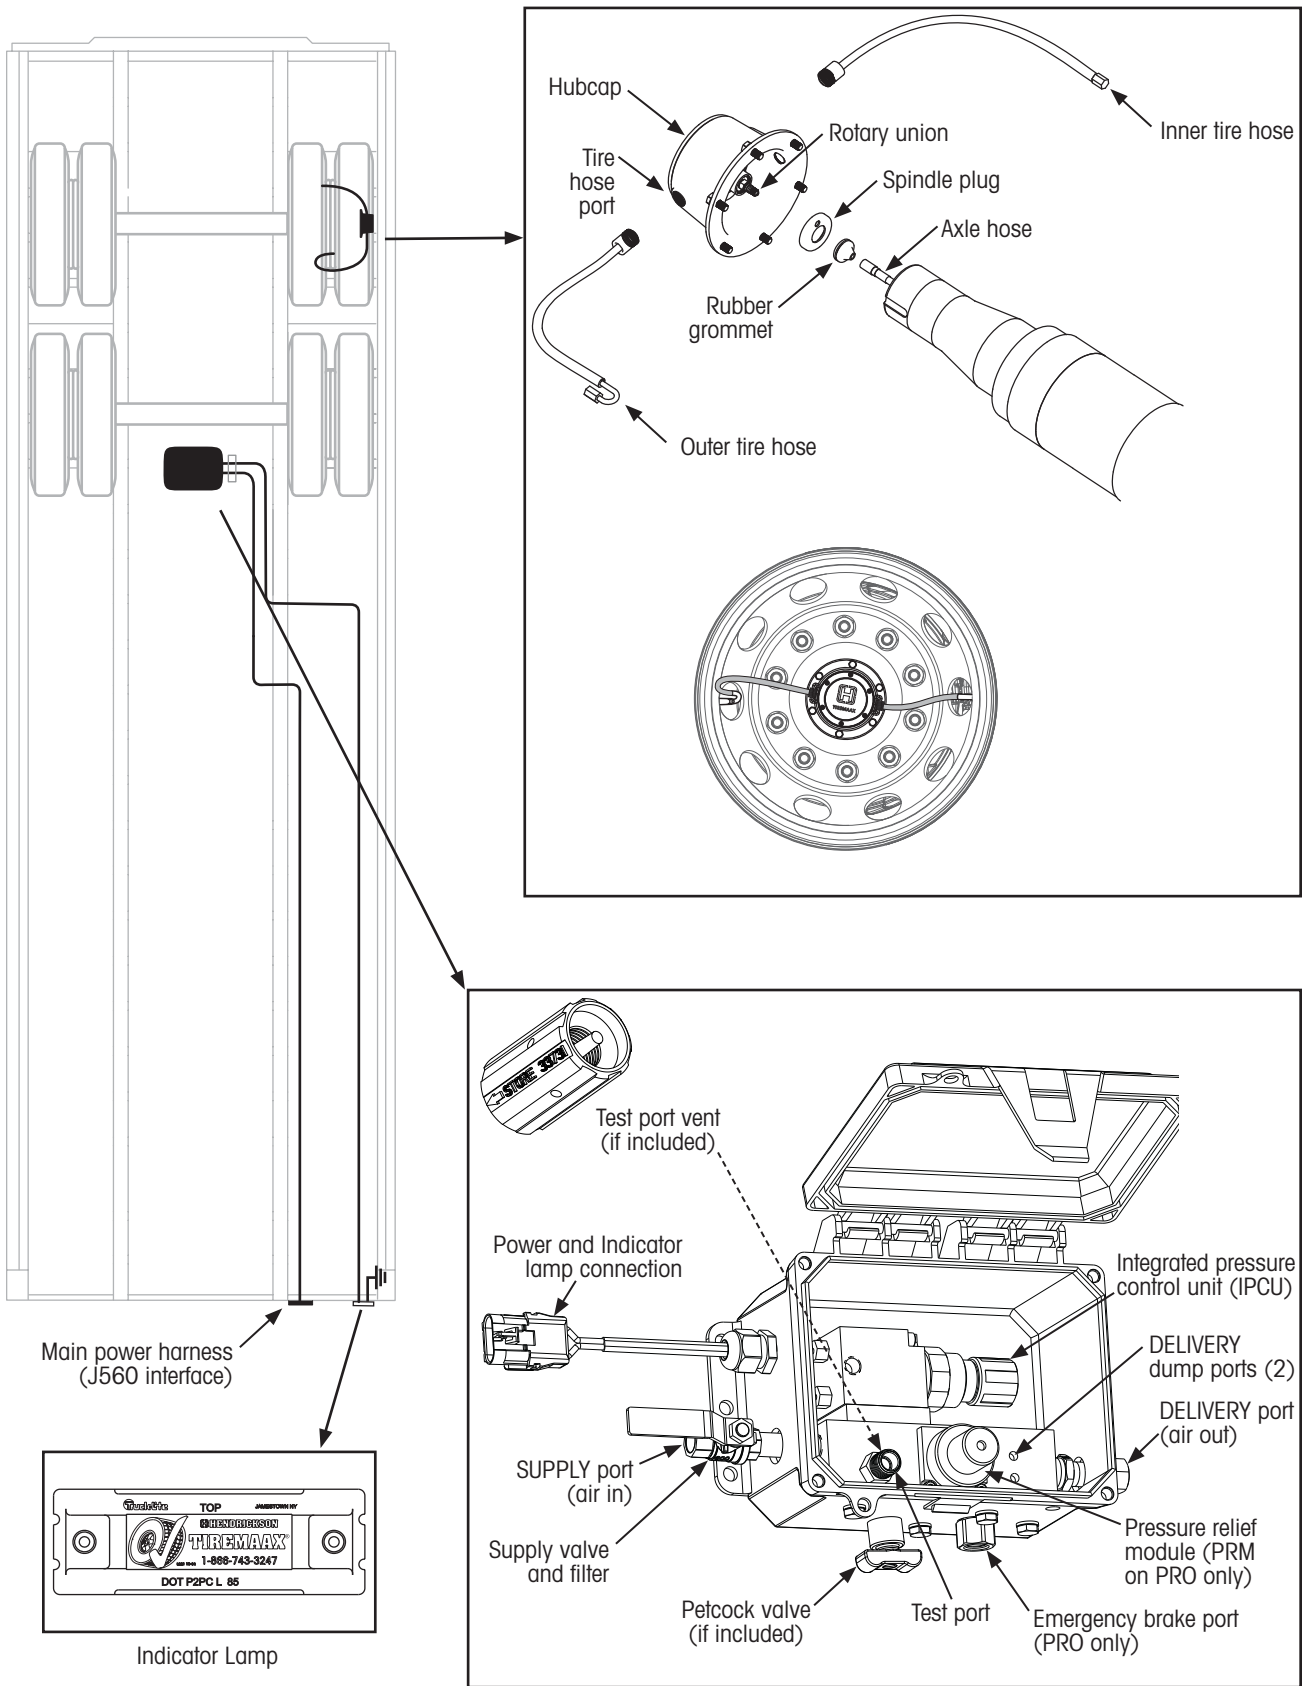

Figure 2: TIREMAAX® components
- If the indicator lamp (Figure 2) remains on for more than 10 minutes, the system is attempting to inflate the tires but may not be able to adequately maintain proper tire pressure. The operator should stop and check the tires to determine if it is safe to continue to operate the vehicle and should seek service at the next opportunity.
This section includes a brief overview of TIREMAAX® PRO and CP components. Refer to Figure 2 on previous page.